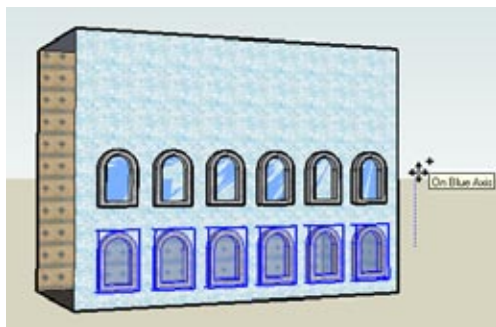

Figure 1-12
- Activate Move and press Ctrl/Option. Click anywhere for the first move point—on a face, edge, or in blank space. Then click the second move point straight above the first move point, in the blue direction (Figure 1-12).